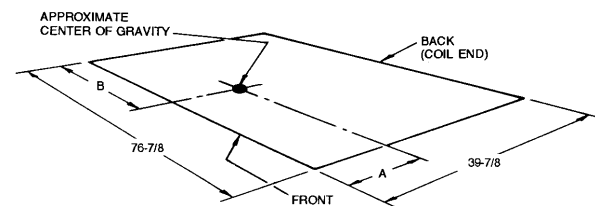

FIGURE 1 - CENTER OF GRAVITY
A minimum of two (2) beams are required to support each unit. The beams should: (1) Be positioned perpendicular to the roof joists. (2) Extend beyond the dimensions of the unit to distribute the load on the roof. (3) Be capable of adequately supporting the entire unit weight. Refer to Figure 1 and Table 2 for load distribution and weights.
A unit can also be supported by concrete piers. These piers should (1) extend below the frost line, (2) be located under the unit's four corners, and (3) be sized to carry the entire unit weight. Refer to Figure 1 and Table 2 for the center of gravity and unit weight.